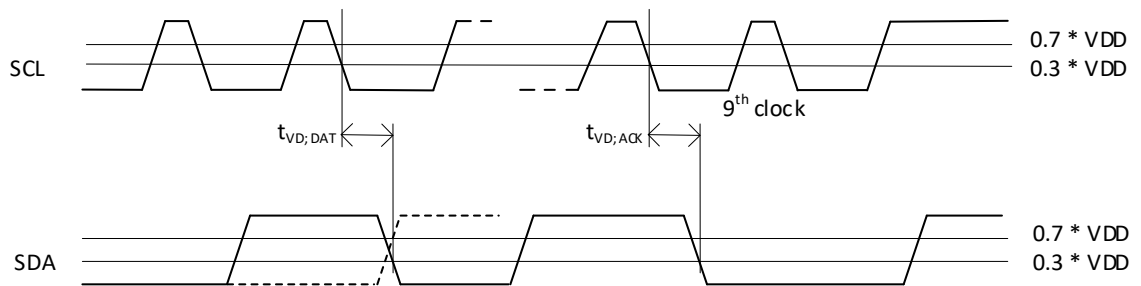

Figure 6-2. Parameter Measurement Waveform: $t_{VD,DAT}$ & $t_{VD,ACK}$
1. $t_{VD;ACK}$ = time for acknowledgement signal from SCL LOW to SDA (out) LOW, see Figure 6-2.
2. $t_{VD;DAT}$ = minimum time for SDA data out to be valid following SCL LOW, see Figure 6-2.